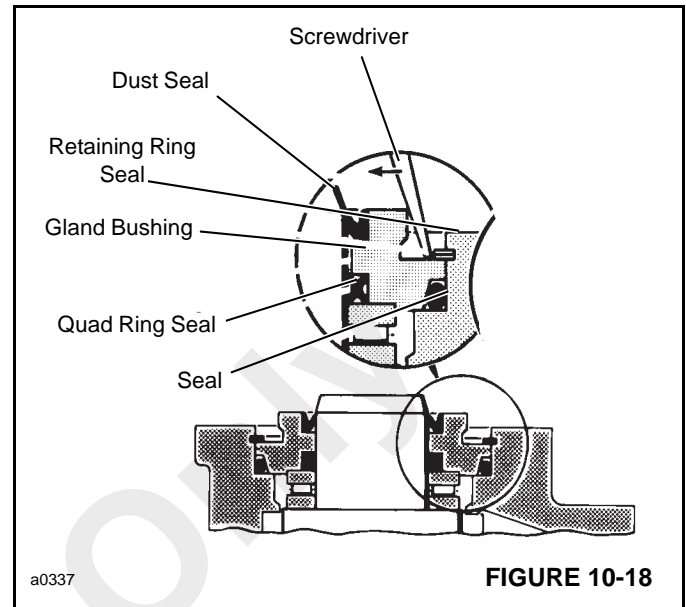

FIGURE 10-18
13. Install needle bearing kit (6).
14. Install dust seal (1) into seal gland bushing (3). Flat or smooth side of the dust seal must face down towards the bushing. See Figure 10-18.
15. Install quad ring seal (5, Figure 10-9) into seal gland bushing (3). Smooth seal in place with your finger. Do not use any seal that falls freely into the pocket of the bushing. See Figure 10-18.
17. Install retaining ring (2, Figure 10-9) in the housing (see Figure 10-18). After installing the retainer ring, tap on ring end or pry with a screwdriver around entire circumference of the ring to properly seat the ring in the groove.